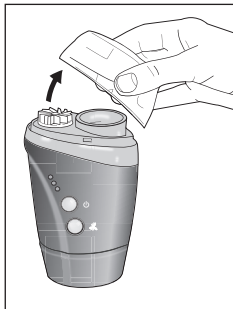

Fig. 1
2. Remove the clear lid from the nebulizer body, Fig 1.